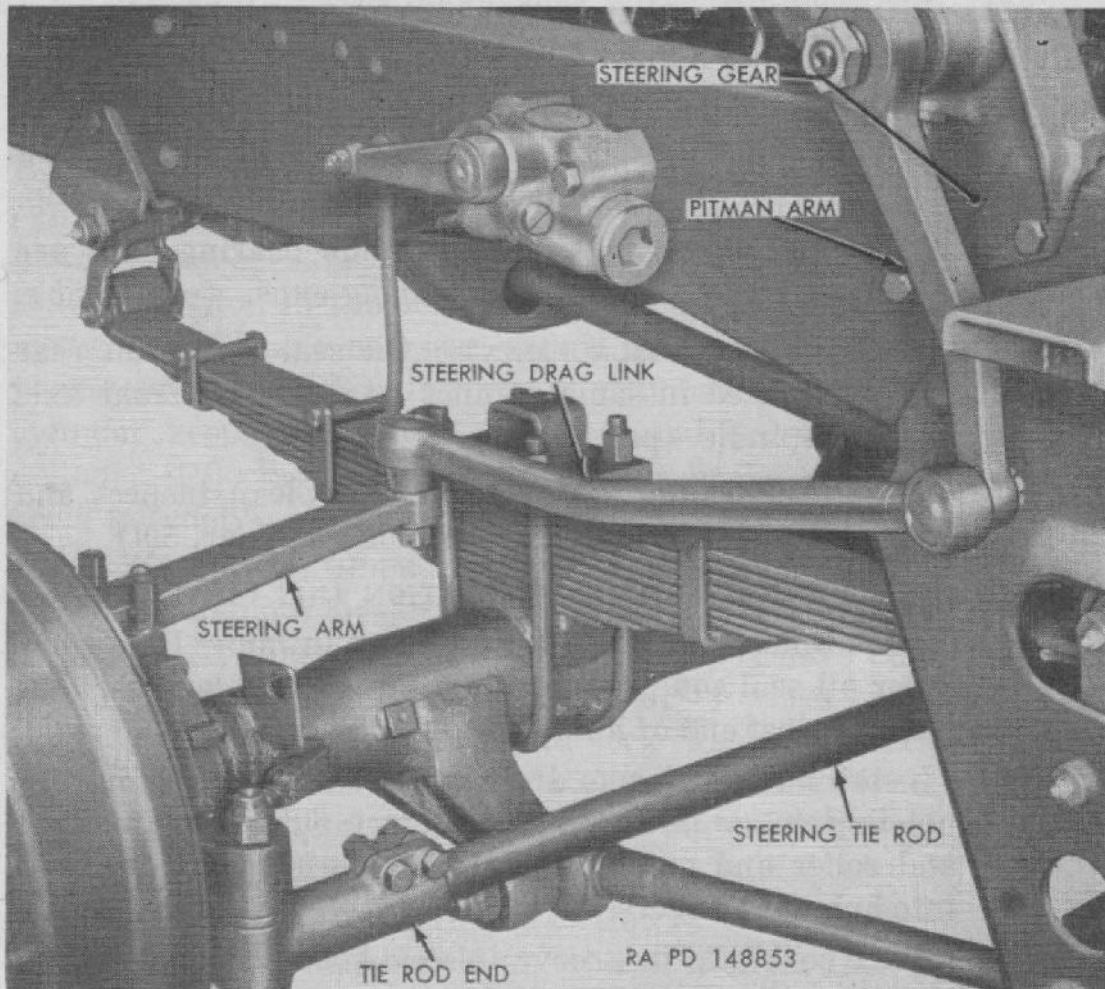
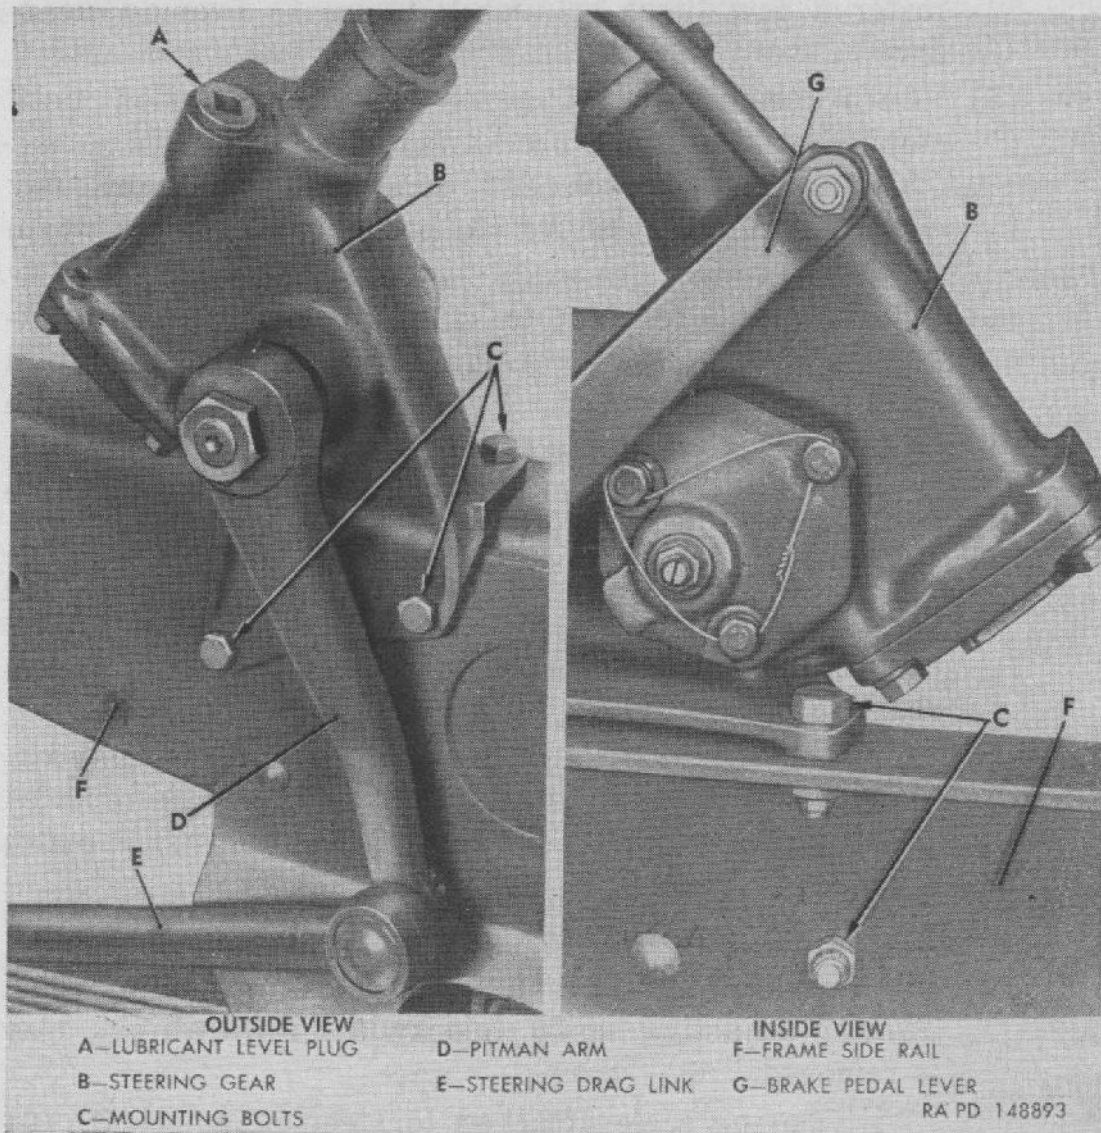
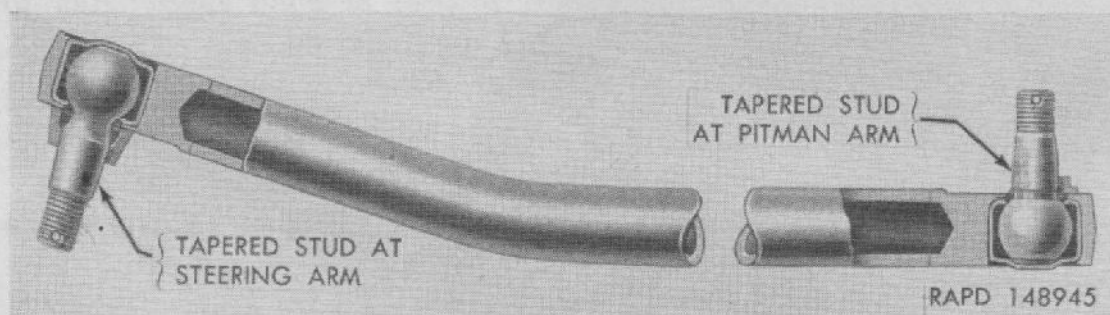
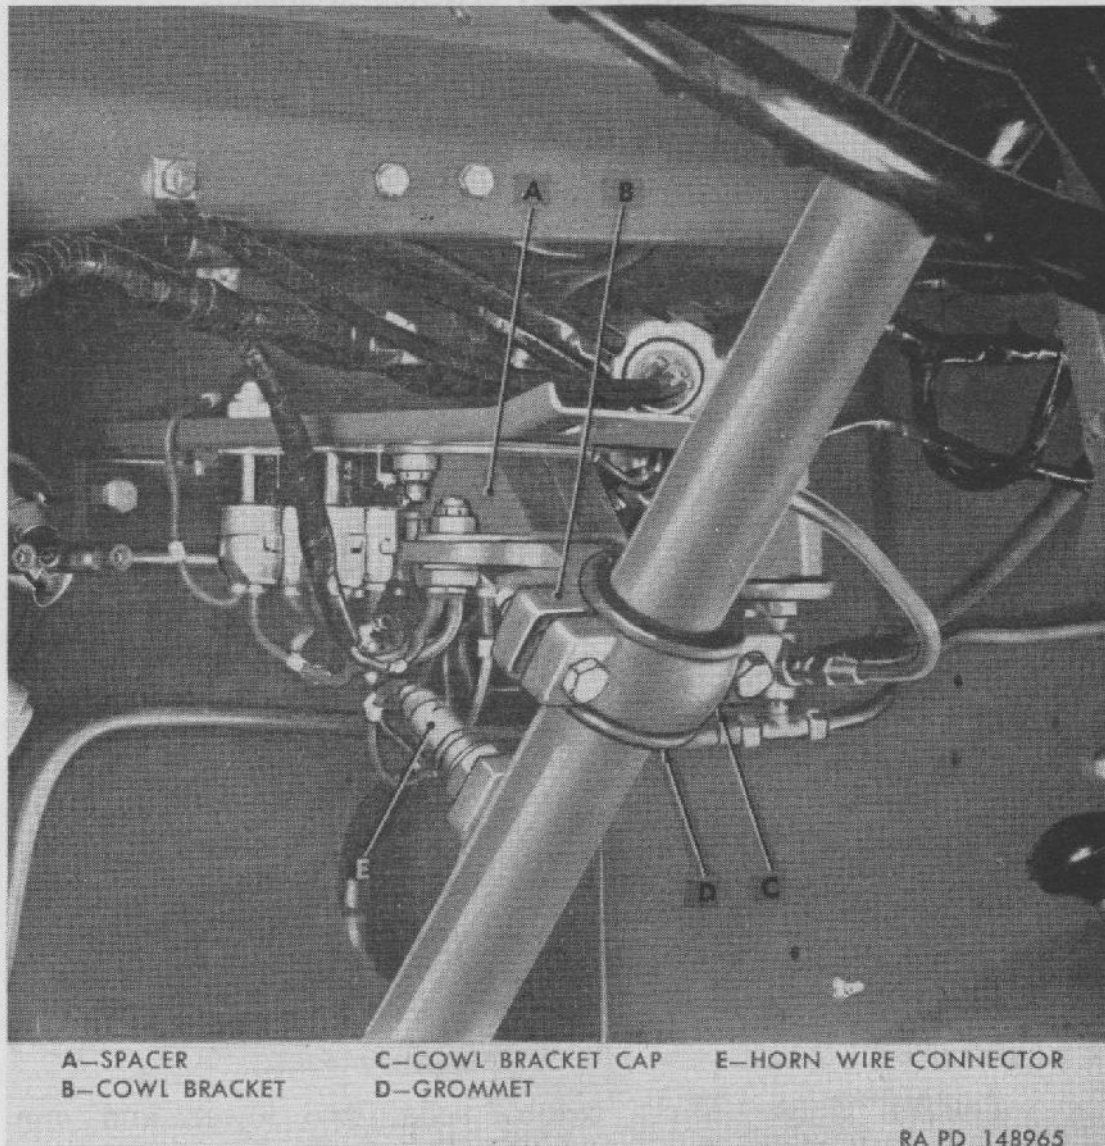

Figure 147. Steering linkage installed.
Figure 148. Steering gear mounted at frame.
Figure 150. Steering drag link.
Figure 153. Steering column mounting at cowl.
a. DESCRIPTION. The recirculating-ball type steering gear assembly is flange-mounted on left-hand frame side rail (fig. 148). The pitman arm, mounted on steering gear pitman arm shaft, is interconnected with steering arm on left steering knuckle of front axle by a steering drag link (fig. 147). Steering wheel is mounted to steering gear wormshaft. Center of steering wheel includes horn button and contacts. Upper portion of steering column is supported at dash with a rubber spacer and a cowl bracket and cap (fig. 153).
- (1) Check lubricant in housing and fill to proper level if necessary (par. 57).
- (2) Check mounting bolt nuts for tightness (par. 253*c*).
- (3) Disconnect drag link from pitman arm (par. 249*b*). Loosen two bolts and nuts on cowl bracket cap (fig. 153).
- (4) Check pull of steering wheel with a spring scale. Measure pull as wheel is pulled through center position. Pull should be $2\frac{1}{2}$ to 3 pounds.
- (5) If pull is not within proper limits ($2\frac{1}{2}$ to 3 lb), loosen lock nut and turn adjuster as necessary to obtain proper pull. Retighten lock nut and again check pull. Always recheck pull after tightening lock nut.
- (6) Install lock wire in heads of side cover screws (fig. 148).
- (7) Install drag link end to pitman arm (par. 249c).
- (8) Tighten two bolts and nuts on cowl bracket cap (fig. 153).
a. GENERAL. Tubular type steering drag link connects pitman arm and steering arm on left steering knuckle of front axle with tapered ball studs and nuts (fig. 147). Ball studs are mounted in drag link ends in bearings which require no lubrication (fig. 150). Rubber seals fit tightly around taper of each ball stud and seal against drag link ends.
b. STEERING DRAG LINK REMOVAL (fig. 147). Remove cotter pin from slotted hex nut at each ball stud. Remove stud nuts; then drive out ball studs from pitman arm and steering arm.
c. STEERING DRAG LINK INSTALLATION (fig. 147). Position drag link ball studs into pitman arm and steering arm. Make sure that rubber seal at each stud is in good condition and fits snugly over stud taper and drag link end. Install slotted hex nut on each stud, and tighten to 75-100 pounds-feet torque. Install new cotter pins and bend into place.
d. Remove four bolts and nuts which mount steering gear to frame side rail (fig. 148).
e. In cab, pull steering gear down until it clears cowl bracket (fig. 153). Pull steering gear straight up through floor and out through left door.
c. Position steering gear on frame side rail and install four mounting bolts and nuts (fig. 148). Tighten nuts to 48-64 pound-feet torque.
d. Loosen the bolts which attach cowl bracket to spacer (fig. 153). Position steering column in cowl bracket, and install rubber grommet and cap. Install two bolts and nuts which retain cap to bracket. Tighten cap-to-cowl-bracket nuts to 20-27 pound-feet torque. With steering column positioned without bind, tighten the bolts which attach cowl bracket to spacer.